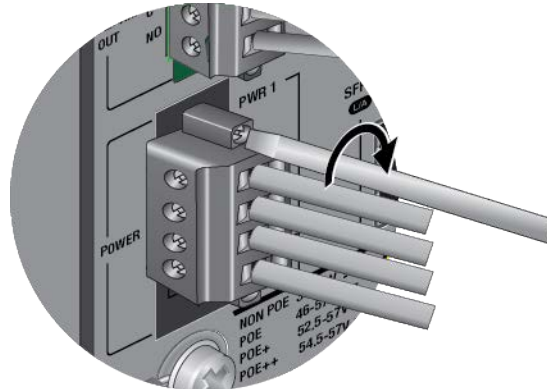

Figure 55. Tightening the Captive Screws to Secure the DC Input Plug to the Power Connector
3. Tighten the two captive screws to secure the DC input plug to the switch. Refer to Figure 55.